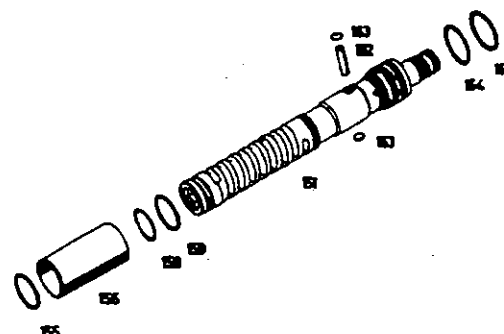

Fig.24
5.2 Place O-ring (158) in radial groove and slip on sealing ring (159) (**Fig.24**).